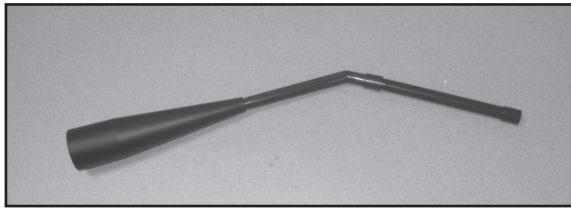

Figure 26.1
- c. Assemble the crevice tool from the micro cleaning kit to attach to a Shop Vac. **Figure 26.1.**